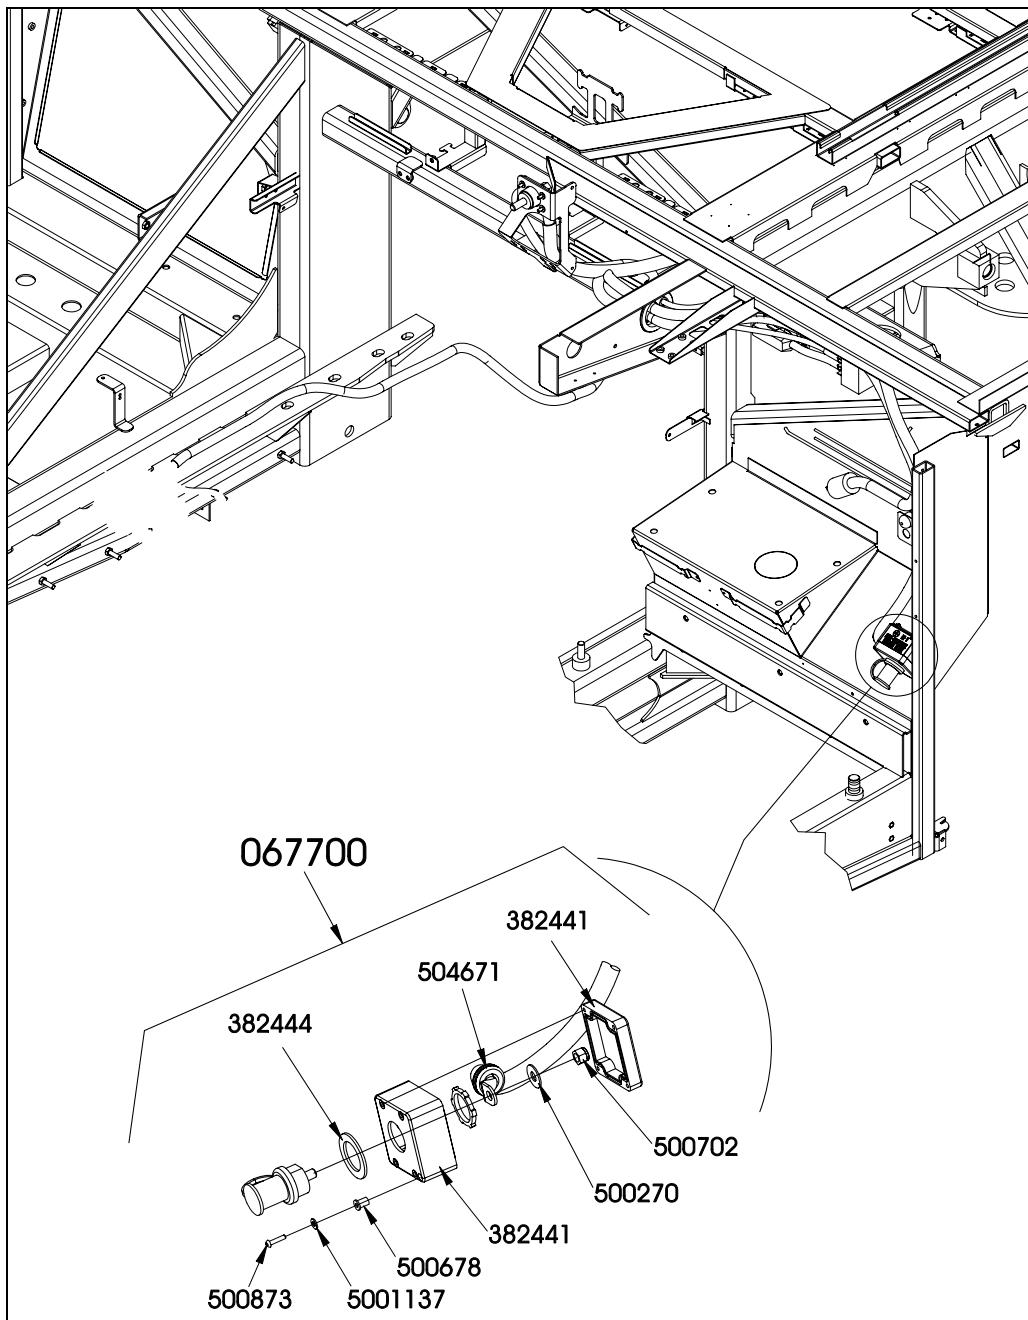

FIGURE 2
12. Secure cable ring terminal onto positive terminal using flat washer ⑥ (500270) and lock nut ⑧ (500702).
14. Affix decal (067893) onto top of protective box (Refer to figure 2)